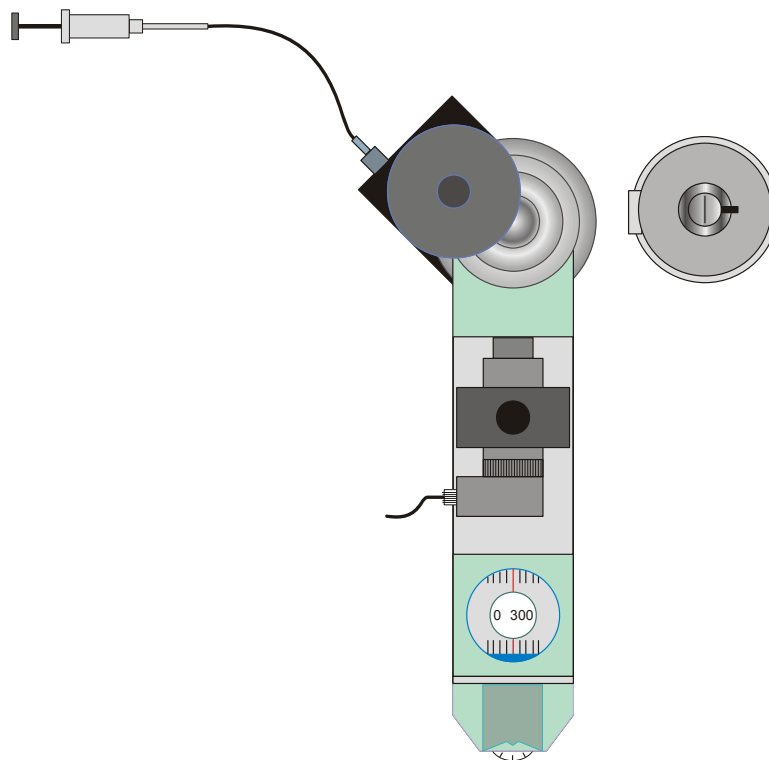

Fig. 9 Insertion of scattering film revolver magazine
- Remove the clamp for the sample holder (see Fig. 9).